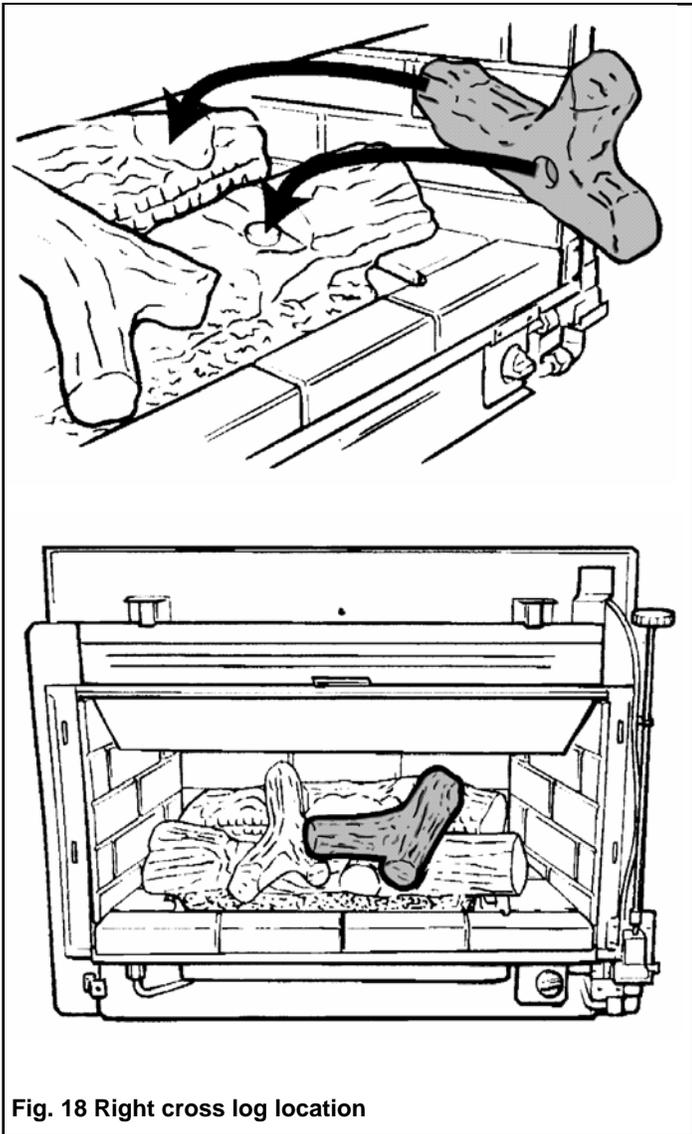

Fig. 18 Right cross log location
- 5.4.8** Install the right cross log (fig. 18). The underside of the log is marked "R" (for right) and "F" (for front). Place the cross log so that the right side peg projecting from the front log is inserted into the hole in the cross log and with the rear of the cross log resting on the flat area of the rear log. *Be careful not to break the peg projecting from the log.* The left branch of this cross log should rest on top of the other cross log.